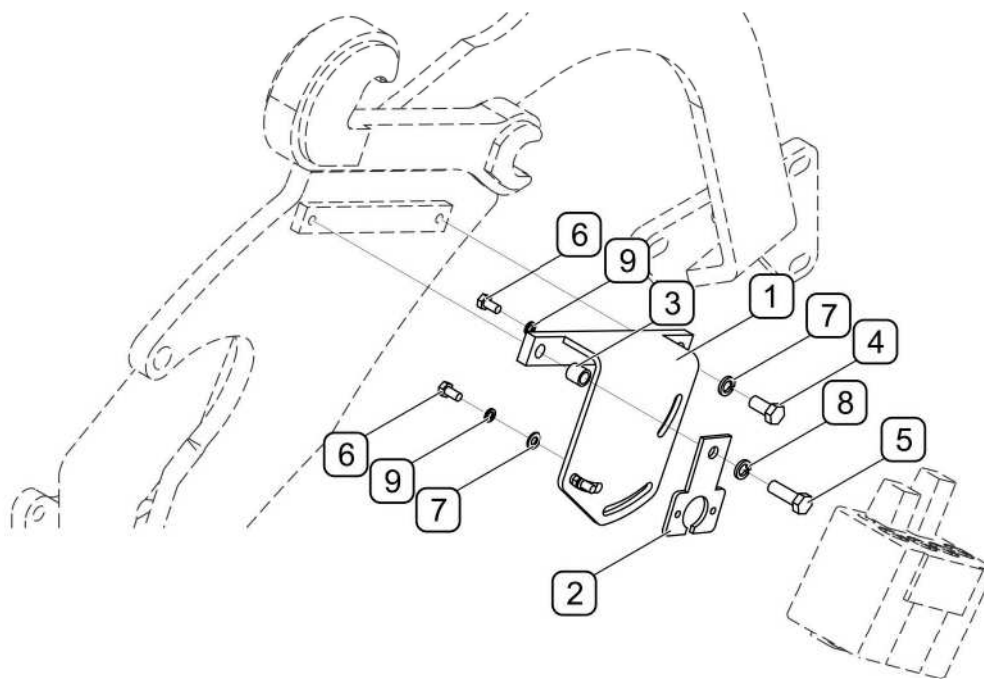

FIG. 4.7A **Installation of hydraulic selective control valve bracket**
(1) -selective control valve bracket (2) -electric socket bracket; (3) -sleeve; (4) -M12x25 bolt; (5) -M12x45 bolt; (6) -M8x16 bolt; (7) -Z12,2 spring washer (8) -Z8,2 spring washer; (9) - 8-100HV washer;
Secure a hydraulic selective control valve to bracket (1), then completely screw down in appropriate place from right side to loader bearing frame together with electric socket bracket (FIG. 4.7A).
Electric wiring harness connected to control lever is powered from lighter socket connected to electric socket and secured to bracket (2) (FIG. 4.7A) on loader bearing frame. The electric circuit controlling the hydraulic solenoid valve operation is at the front of the loader arm.